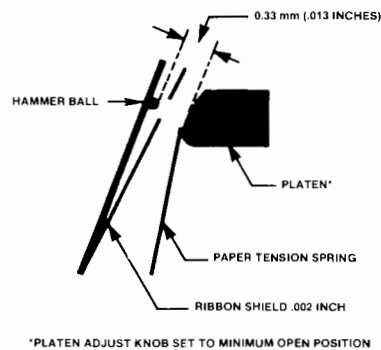

Figure 10. Hammer-to-Platen Gap
- c. Use a thickness gauge to check the gap between the platen face and the hammer ball along the entire length of the corebar and platen. The gap should be as shown in Figure 10. Small variations ( $\pm 0.002$  inch;  $\pm 0.05$  mm) will occur along the corebar but the gap measurement should be an average of these variations.
- d. If the gap as shown in Figure 10 is not maintained across the entire platen, it will need adjustment. Using a hex driver, slightly loosen, but do not remove, the two pairs of socket head screws at each end on top of the platen.